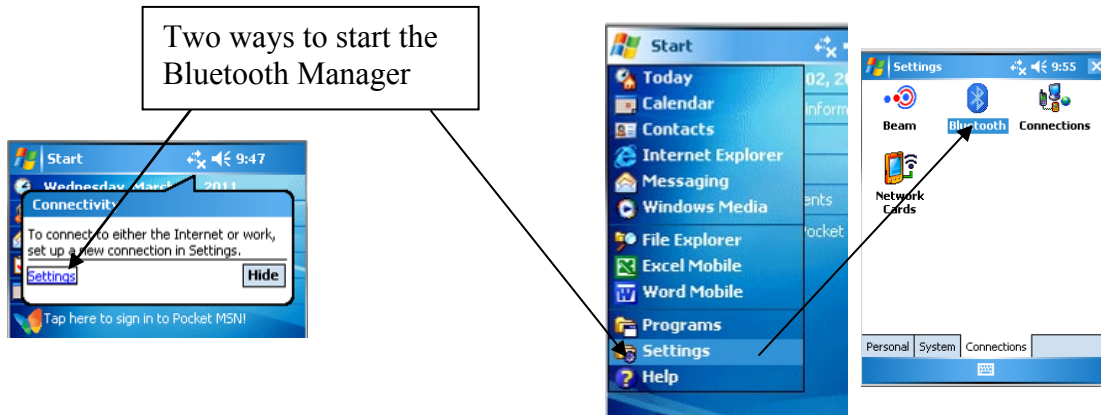

Figure 6 - Starting Bluetooth Manager
- 1) Use the Bluetooth Settings Manager on the handheld PC to set up the link to the remote. Read about setting up a Bluetooth “partnership” in Chapter 9 of the handheld PC’s Reference Guide. See Figure 6 below for two examples of how to start Bluetooth Manager.